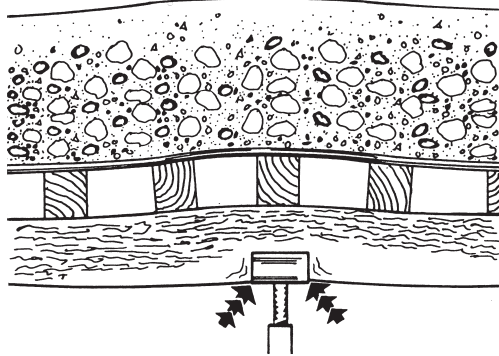

Figure 219 – Crushing of Stringer Over U-Head
- crushing of wooden stringers on U-heads (Figure 219)